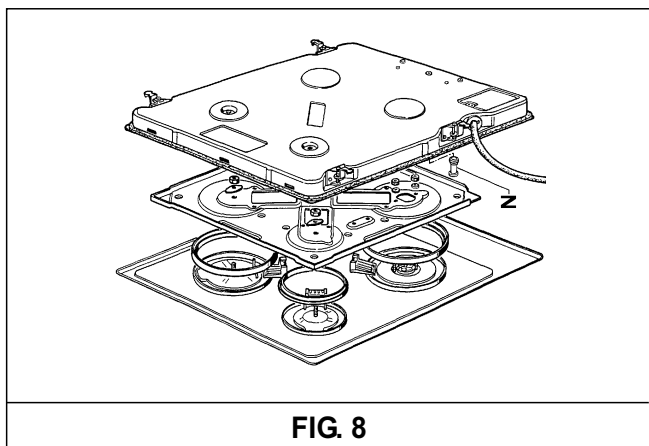

FIG. 8
**a)** remove the hotplate from the top of the cabinet, overturn it, unscrew screw "Z" and remove under part (see fig. 8).
For access to the various parts, remove the hotplate from the top of the cabinet. Then overturn it, unscrew screw "Z" and remove under part. (see fig. 8).